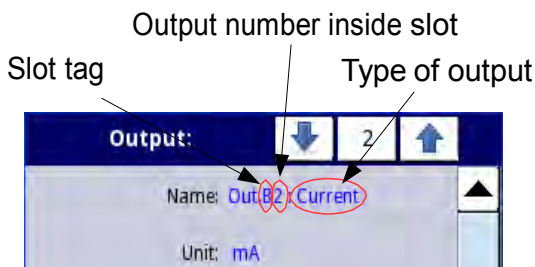

Fig. 7.78. Description of Name parameter in Built-in outputs menu
- Name - each output already has a name given by the device and user cannot change it, for description of Name parameter see Fig. 7.78,
- Name – each outputs already has a name given by the device and user cannot change it - see Fig. 7.78,